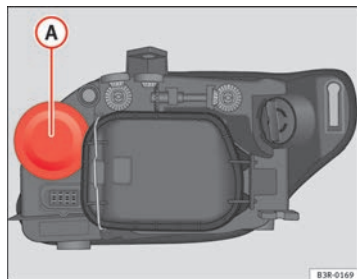

Fig. 192 Main beam headlights
- Pull up on the rubber cover **A** ⇒ fig. 192 to remove it.